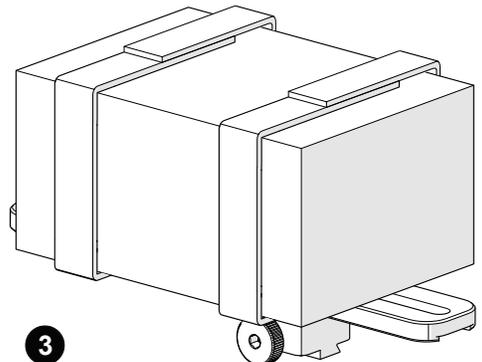

Fig. 47 - Mount bracket on a frame bar
3. Secure the preamp to the bracket, attaching each side of the velcro (Fig. 47).